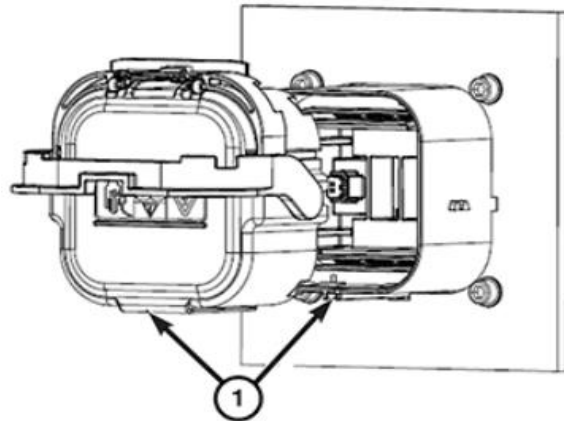

Figure 23 – MSD Installation
18. Align the polarization feature (1) of the high-voltage MSD with the receptacle on the high-voltage battery (Figure 23).
19. Push the high-voltage MSD evenly into the receptacle with the lever (1) in the 90° position.